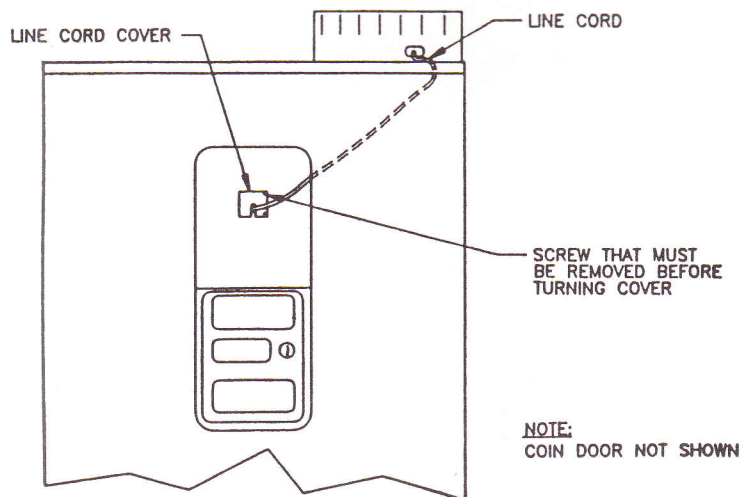

FIG. 2
- B. Remove and retain the screw in upper corner of the line cord cover. See FIG. 2.